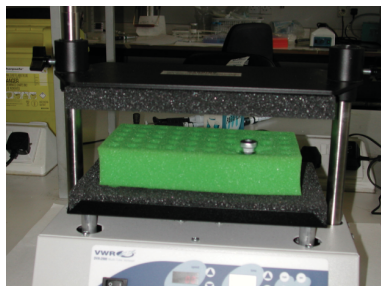

Figure 2
2. Place the foam rack into the VWR-DVX2500 vortexer (Figure 2)